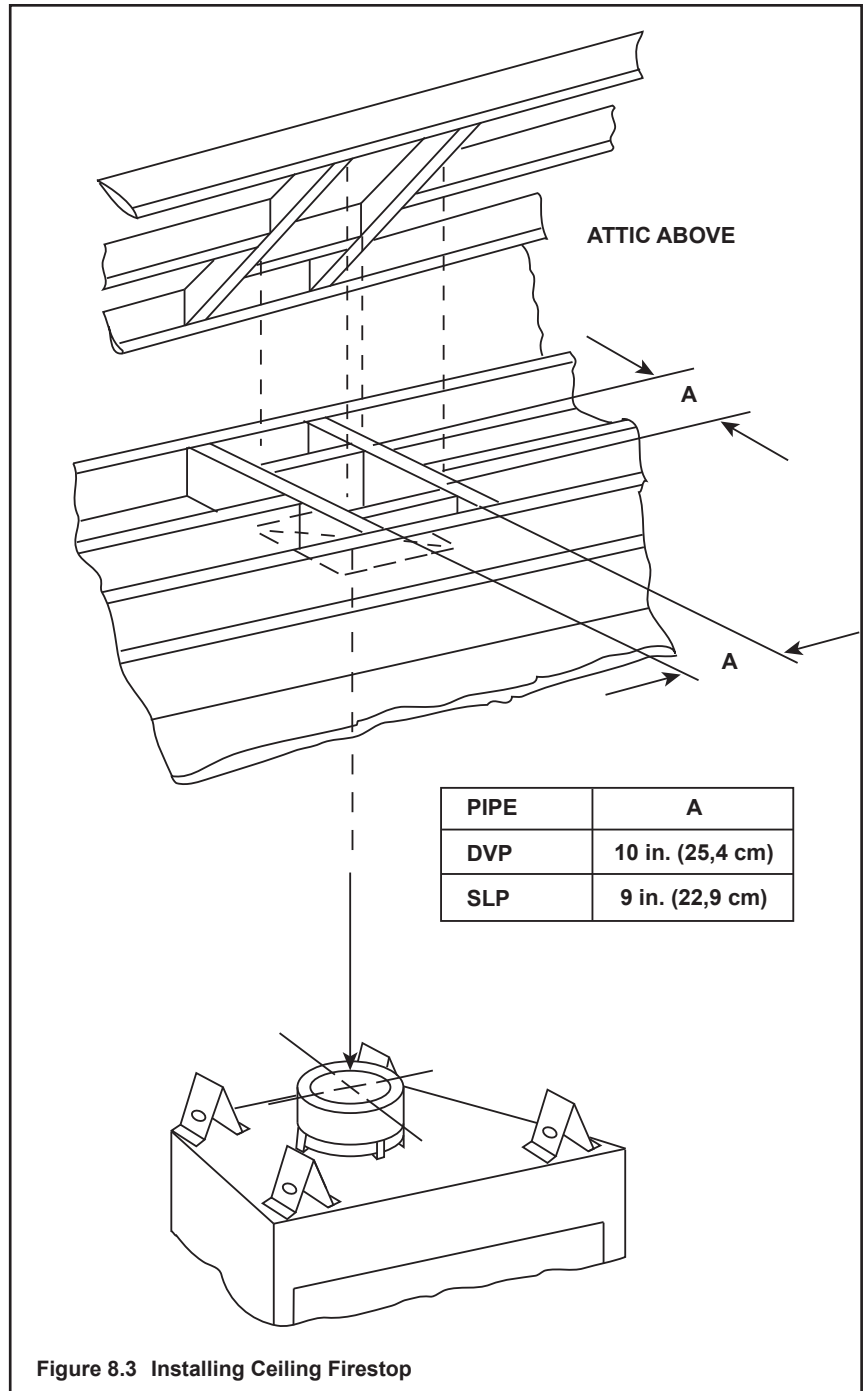

Figure 8.3 Installing Ceiling Firestop
- **SLP pipe only** - Frame opening 9 in. x 9 in. (22,9 cm x 22,9 cm) whenever the vent penetrates a ceiling/floor (see Figure 8.3).